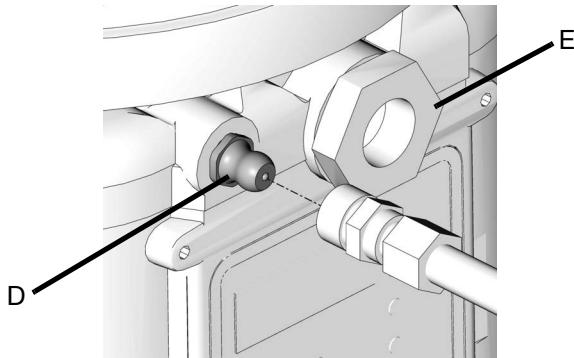

FIG. 15
1. Connect fill hose to inlet fitting (D) (FIG. 15).